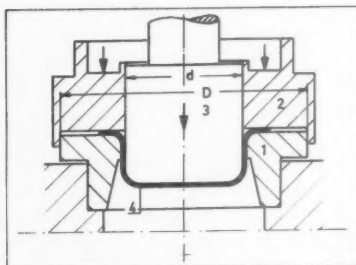
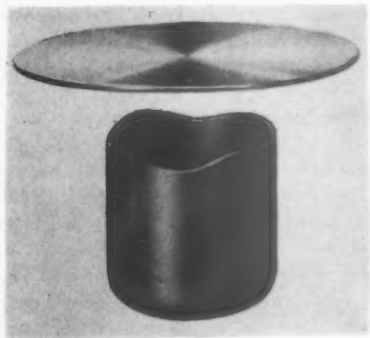

Fig. 5
Fig. 6
**The Stamping-Lacquer Test**, practically unknown in the United States, determines the pressing, stamping and drawing properties of stamping lacquers applied to tinplate. This method, using testing conditions similar to those in practice, provides more information on the quality of stamping lacquers than the cupping test. The stamping-lacquer test (Fig. 5) uses a cylindrically extruded stamper of 33 mm in diameter to deform a lacquers tinplate (64 mm in diam.) to a standard cup with or without bottom ream (Fig. 6), on which the